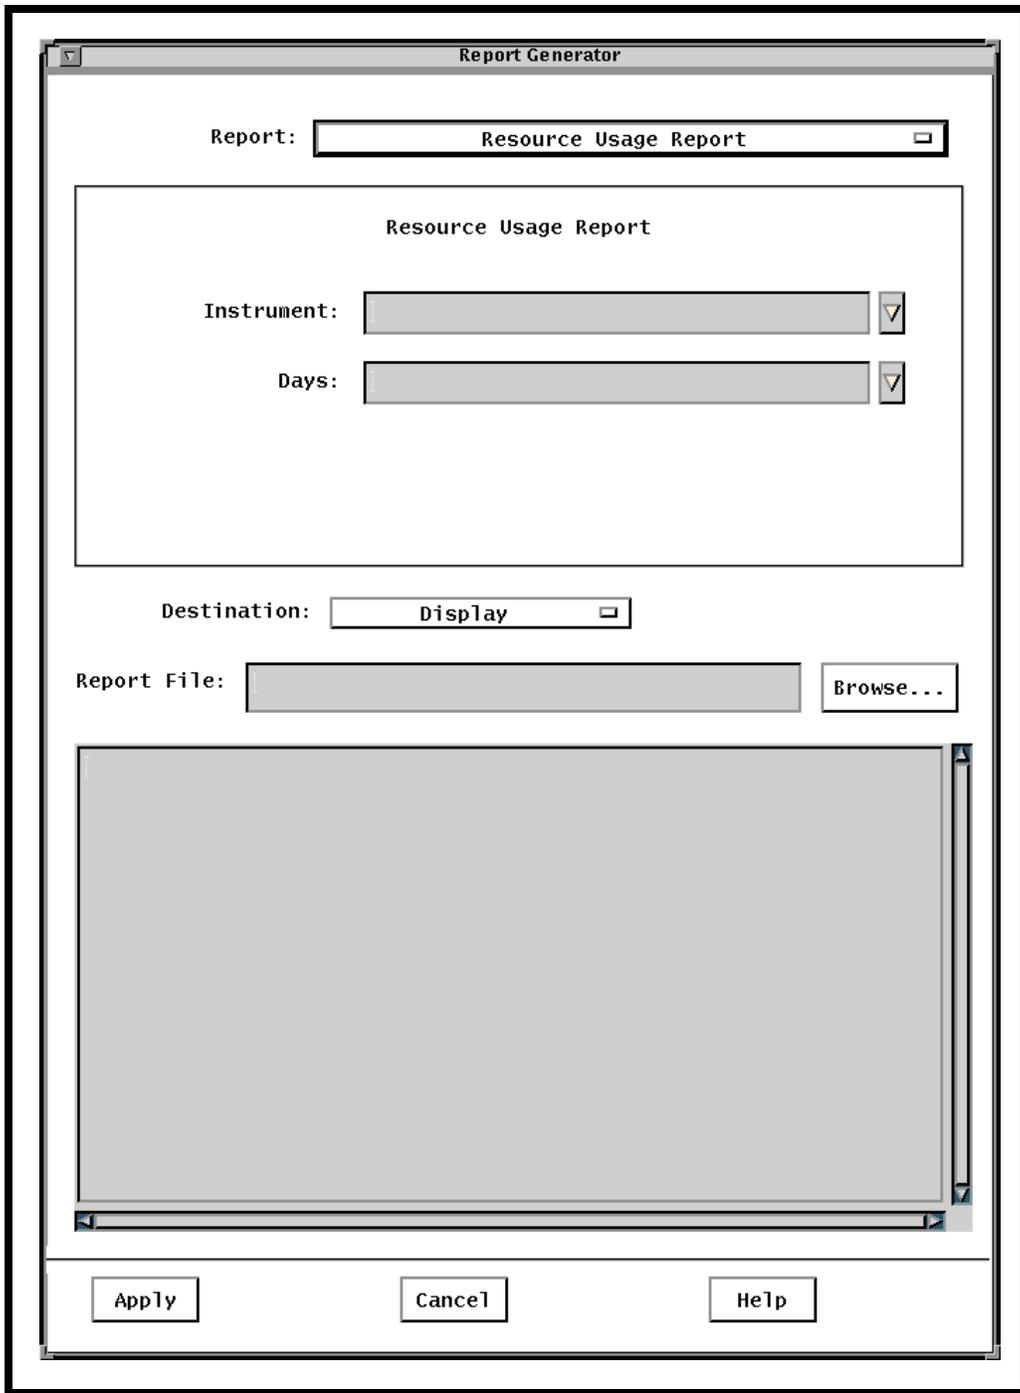

Figure 30. Report Generator GUI
- The **Report Generator** GUI (Figure 30) is displayed.